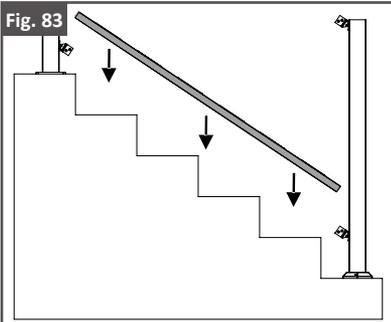

Fig. 83
1. Install cut bottom rail into the lower installed brackets. As shown in Fig. 83.